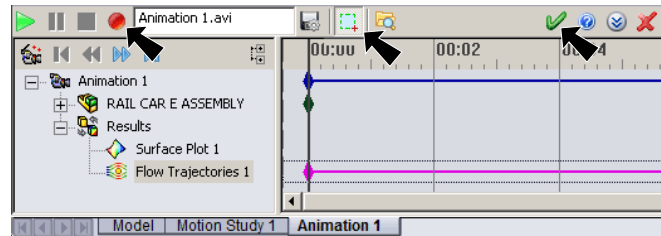

Fig. 41
Step 1. In the Animation control panel turn on **Capture Region** , Fig. 41.
Step 4. Click **Record** , Fig. 41.